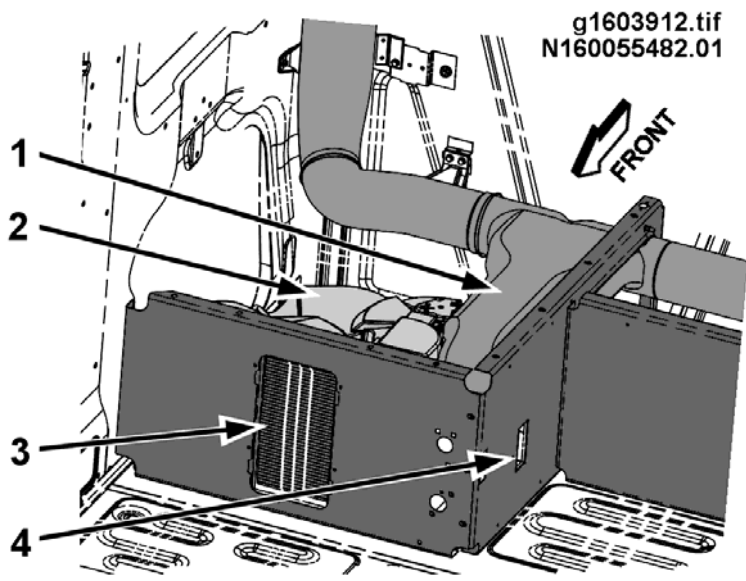

Figure 56 Location of Rear HVAC Unit
9. Remove the rear HVAC unit outlet duct (1 screw). Refer to Figure 56. NOTE: It may be helpful to loosen or remove some connected duct work.
10. Remove the filter element (3, Figure 56) from the air intake of the rear HVAC unit.
4. Install the rear HVAC unit outlet air duct (1 screw). Verify that all related duct work is positioned and secured correctly (Figure 56).
13. Remove the rear HVAC unit outlet duct (1 screw). Refer to Figure 56. NOTE: It may be helpful to loosen or remove some connected duct work.
5. Install the rear HVAC unit outlet air duct (1 screw). Verify that all related duct work is positioned and secured correctly (Figure 56).